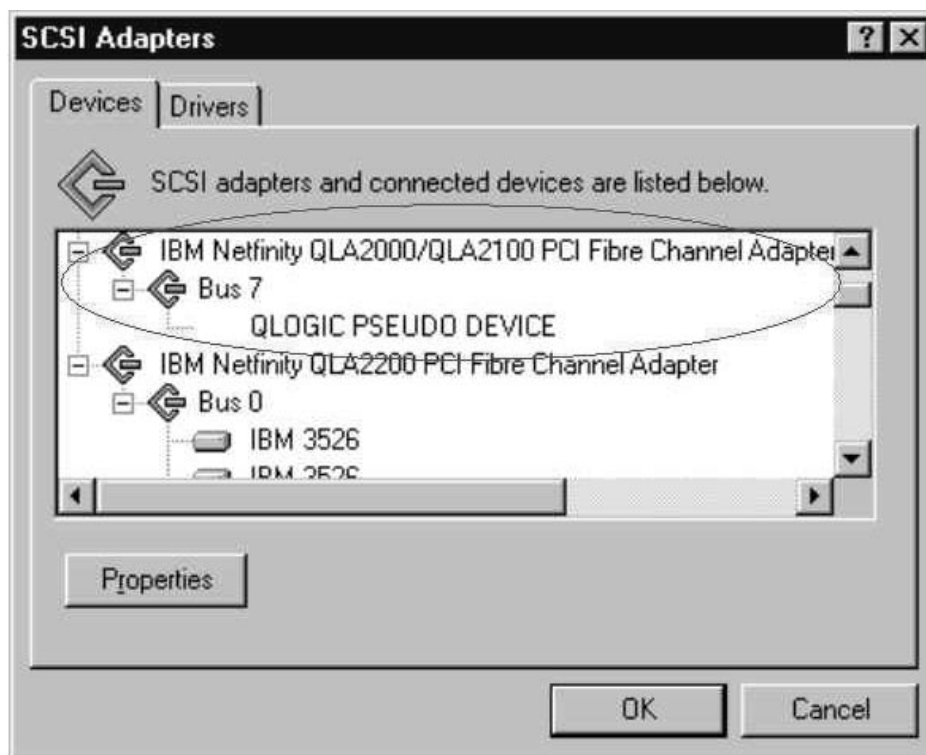

Figure 135. SCSI adapters
1. Windows NT comes up to the blue screen and reports the first two lines (version, number of processors, and amount of memory). Windows NT takes a very long time to start. The SCSI Adapters applet in the Control Panel displays the window shown in Figure 135 for the 2100: